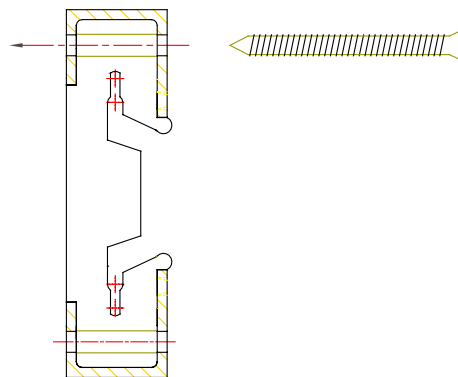

Figure 2
2. Secure clips with a single fastener on one end only. (Figure 2)